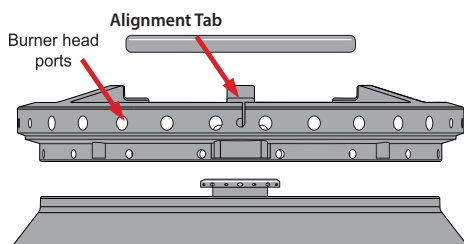

Figure 29: Burner head ports
1. Lift the burner cap from the burner head to clean the burner head and ports (See Figure 29).